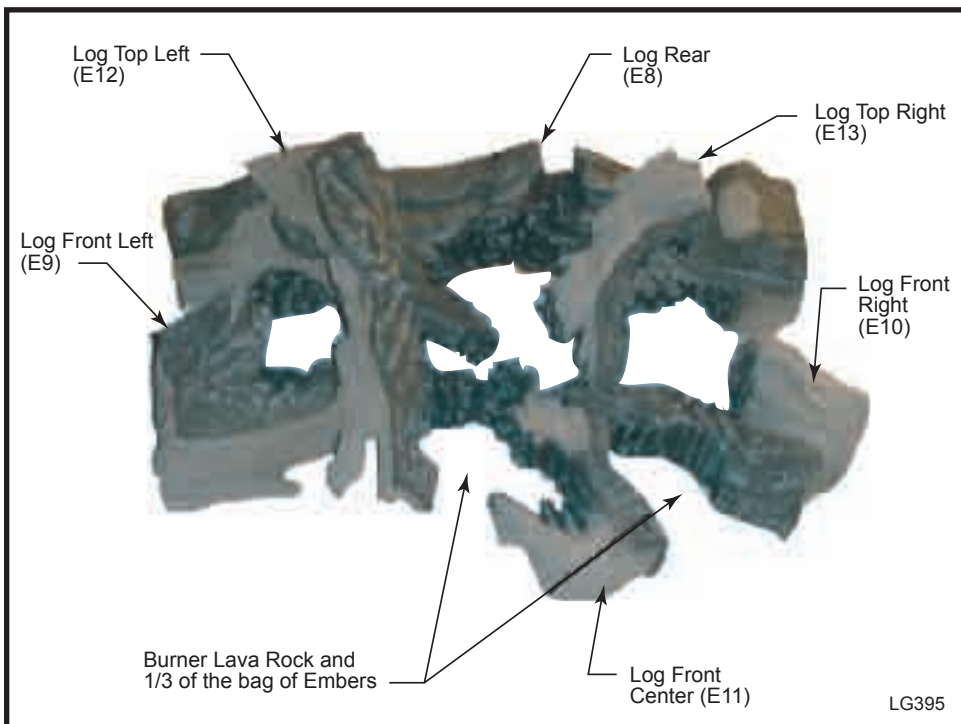

Fig. 50 DV580 log, burner lava rock and ember placement.
3. Place front right log (E10) on top of burner, right side. Align log's bottom holes with right bracket log locator studs. (Fig. 50)
Refer to Figure 50.
1. Place rear log (E8) on rear bracket (ensure the notch on the left end is centered on the left side of rear bracket), so it will not move from side to side and is firmly positioned on the bracket. Be sure log is as far forward as possible on bracket. (Fig. 50)